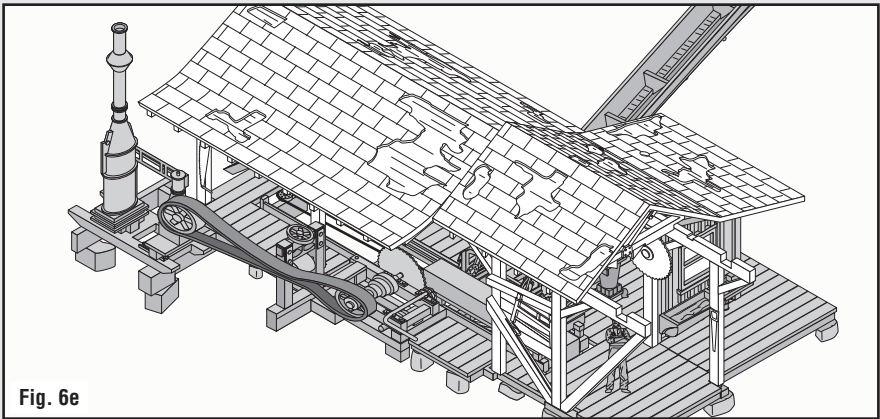

Fig. 6e
- Glue Roof/Frame Posts Assembly to Base. Make sure placement pins align with placement holes (Fig. 6e). Woodstove pipe should fit into placement hole in Small Roof ceiling.